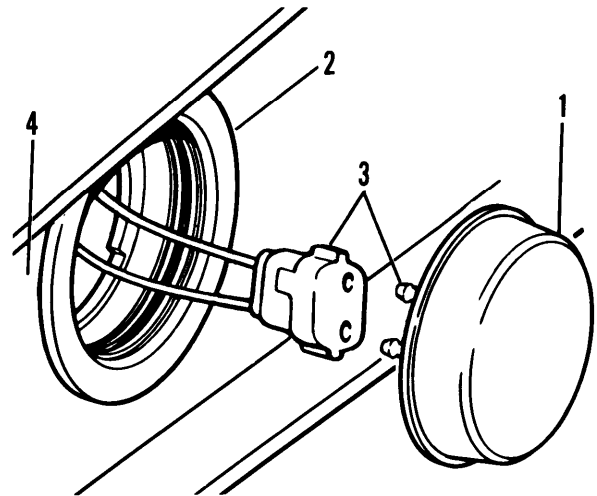

Figure 4-13. Clearance Light (M871A1)
(1) Pry clearance light (1, fig. 4-13) from grommet (2).
(2) Pull connectors (3) apart.
(3) Remove grommet (2) from frame (4).
(1) Install grommet (2, fig. 4-13) in frame (4).
(2) Connect cable connectors (3).